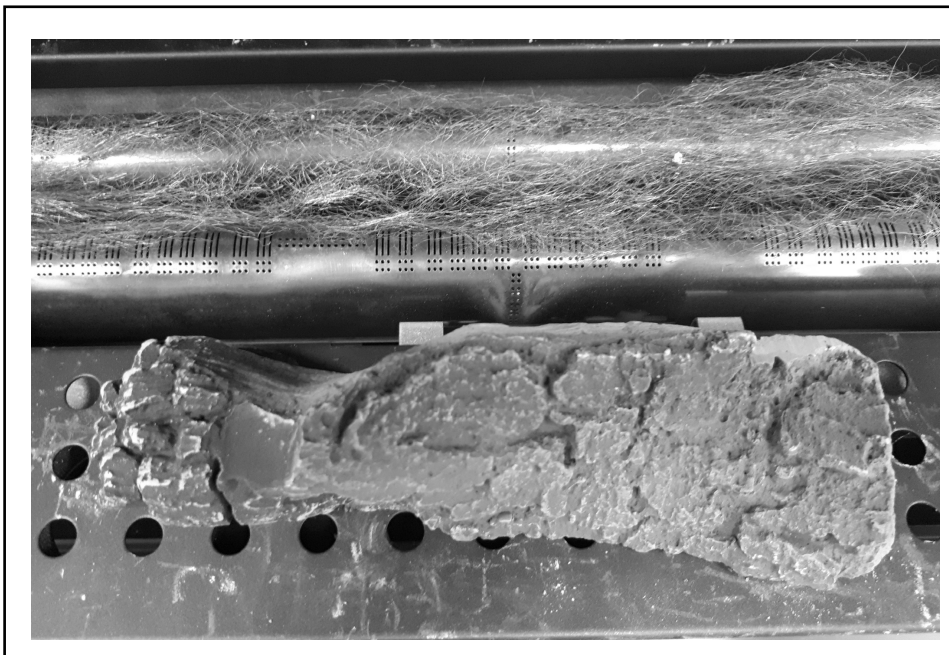

Fig. 4
4. Place Log '4' in position as shown in fig.4. Log 4 has a flat side to rest on the metal tray. The log rests on the metal tray in the middle when later fitting Logs 7 and 10 this location will be defined.